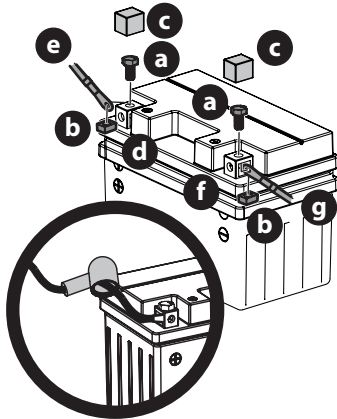

Fig. 22
2. Remove the hex screw and square nut securing the black negative battery lead to the negative battery post (marked NEG (-)). Move the cable away from the negative battery post (Fig. 22 on page 19).
- Remove the hex screw and square nut securing the red positive battery lead to the positive battery post (marked POS (+)) (Fig. 22).